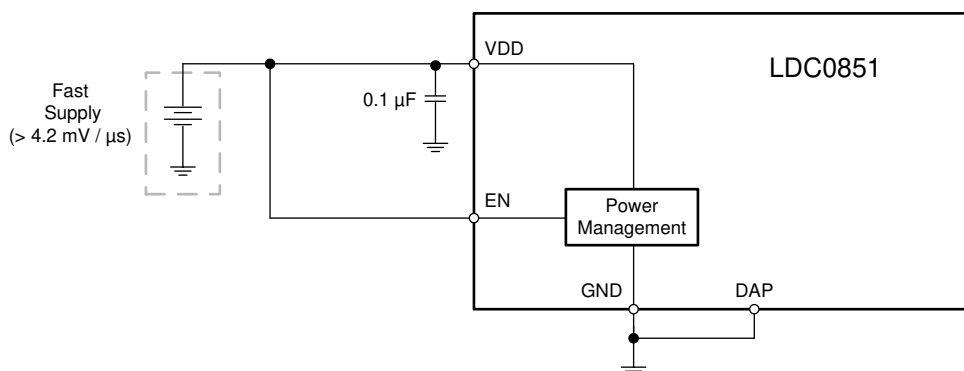

图 7-8. Supply Connections for Fast Ramp Rate
A 0.1 μF capacitor should be used to bypass VDD. If multiple bypass capacitors are used in the system, then the smallest value capacitor should be placed as close as possible to the VDD pin. A ground plane is recommended to connect both the ground and the Die Attach Pad (DAP). If the supply ramp rate must be faster than 4.2 mV/ μs the enable pin (EN) may be tied directly to VDD as shown in 图 7-8.